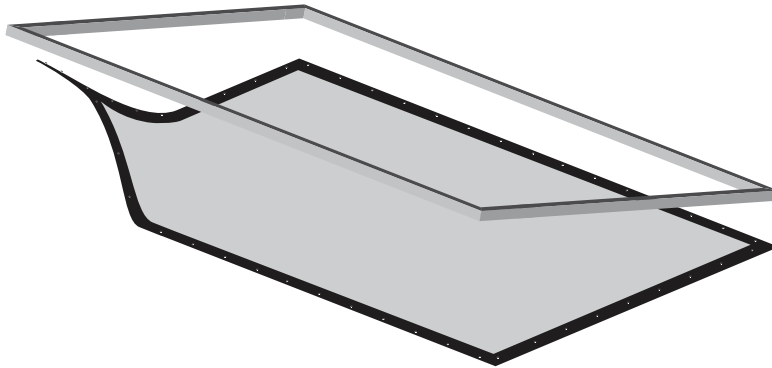

Figure 7: Attaching Top Corner Snaps
2. Starting with the snaps on the top corners and then horizontally along the top, while lifting the frame with one hand, snap the screen into the frame. Gently allow the screen to stretch onto the snaps. Do not jerk, wrinkle or crease the screen material, as it can be damaged. Refer to Figure 7.